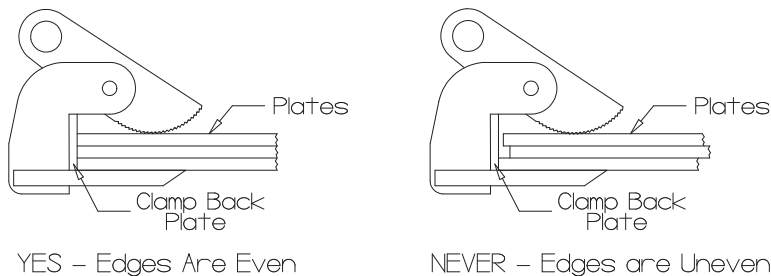

Figure 6
10. When lifting a bundle of plates, ensure the edges are even and up against the back jaw plate of each clamp. Never lift bundles of plate with the edges uneven (Fig. 6).
1. When placing the clamps onto the plate, the edge of the plate should be against the back jaw plate of each clamp (Fig. 6). When lifting more than one plate, ensure the edges of the plates are even (Fig. 6).